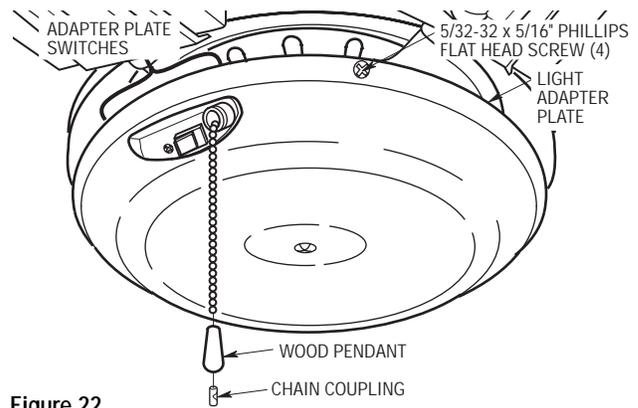

Figure 22
- 12. Position the light adapter plate over the light fixture mounting plate. The adapter plate switches must be located in the recessed portion of the mounting plate (Figure 15). Align the holes in the adapter plate with the holes in the mounting plate and install four 5/32-32 x 5/16" Phillips flat head screws (supplied) (Figure 22).
- 13. Cut the speed control switch pull chain to your desired length (optional). Connect the wood pendant (supplied) to the pull chain by sliding the wood pendant (small hole first) onto the pull chain (Figure 22). Then attach a chain coupling (supplied) to the end of the chain and allow the pendant to slide down over the coupling.